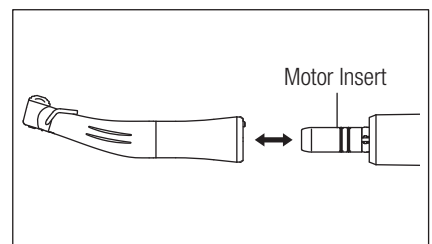

Fig.3
- Insert the handpiece until it reaches the end of Motor Insert and screw it in with pushing until it locks with the click sound. (Fig. 3)